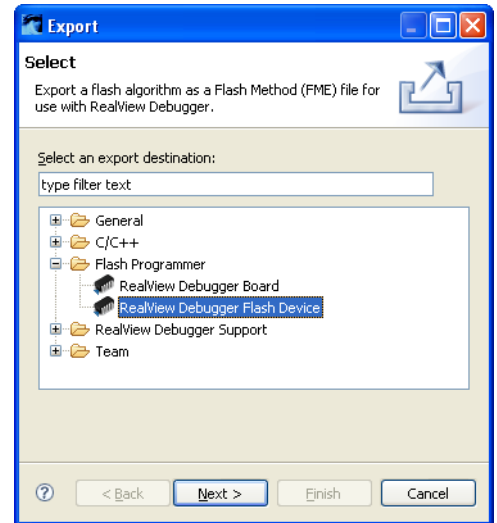

Figure 6-18 Export flash device to RealView Debugger
1. Select **File** → **Export...** from the menu and then select **Flash Programmer** → **RealView Debugger Flash Device**, see Figure 6-18. Click on **Next**.